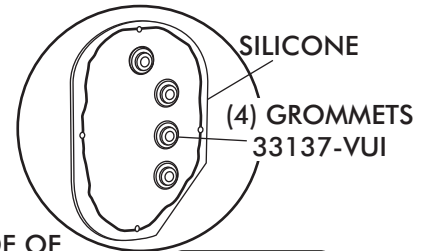

FIGURE 6a
- ❑ APPLY A 1/4" BEAD OF SILICONE AROUND THE BACK SIDE OF KICK PANEL COVER AS SHOWN IN FIGURE 6a, BELOW.